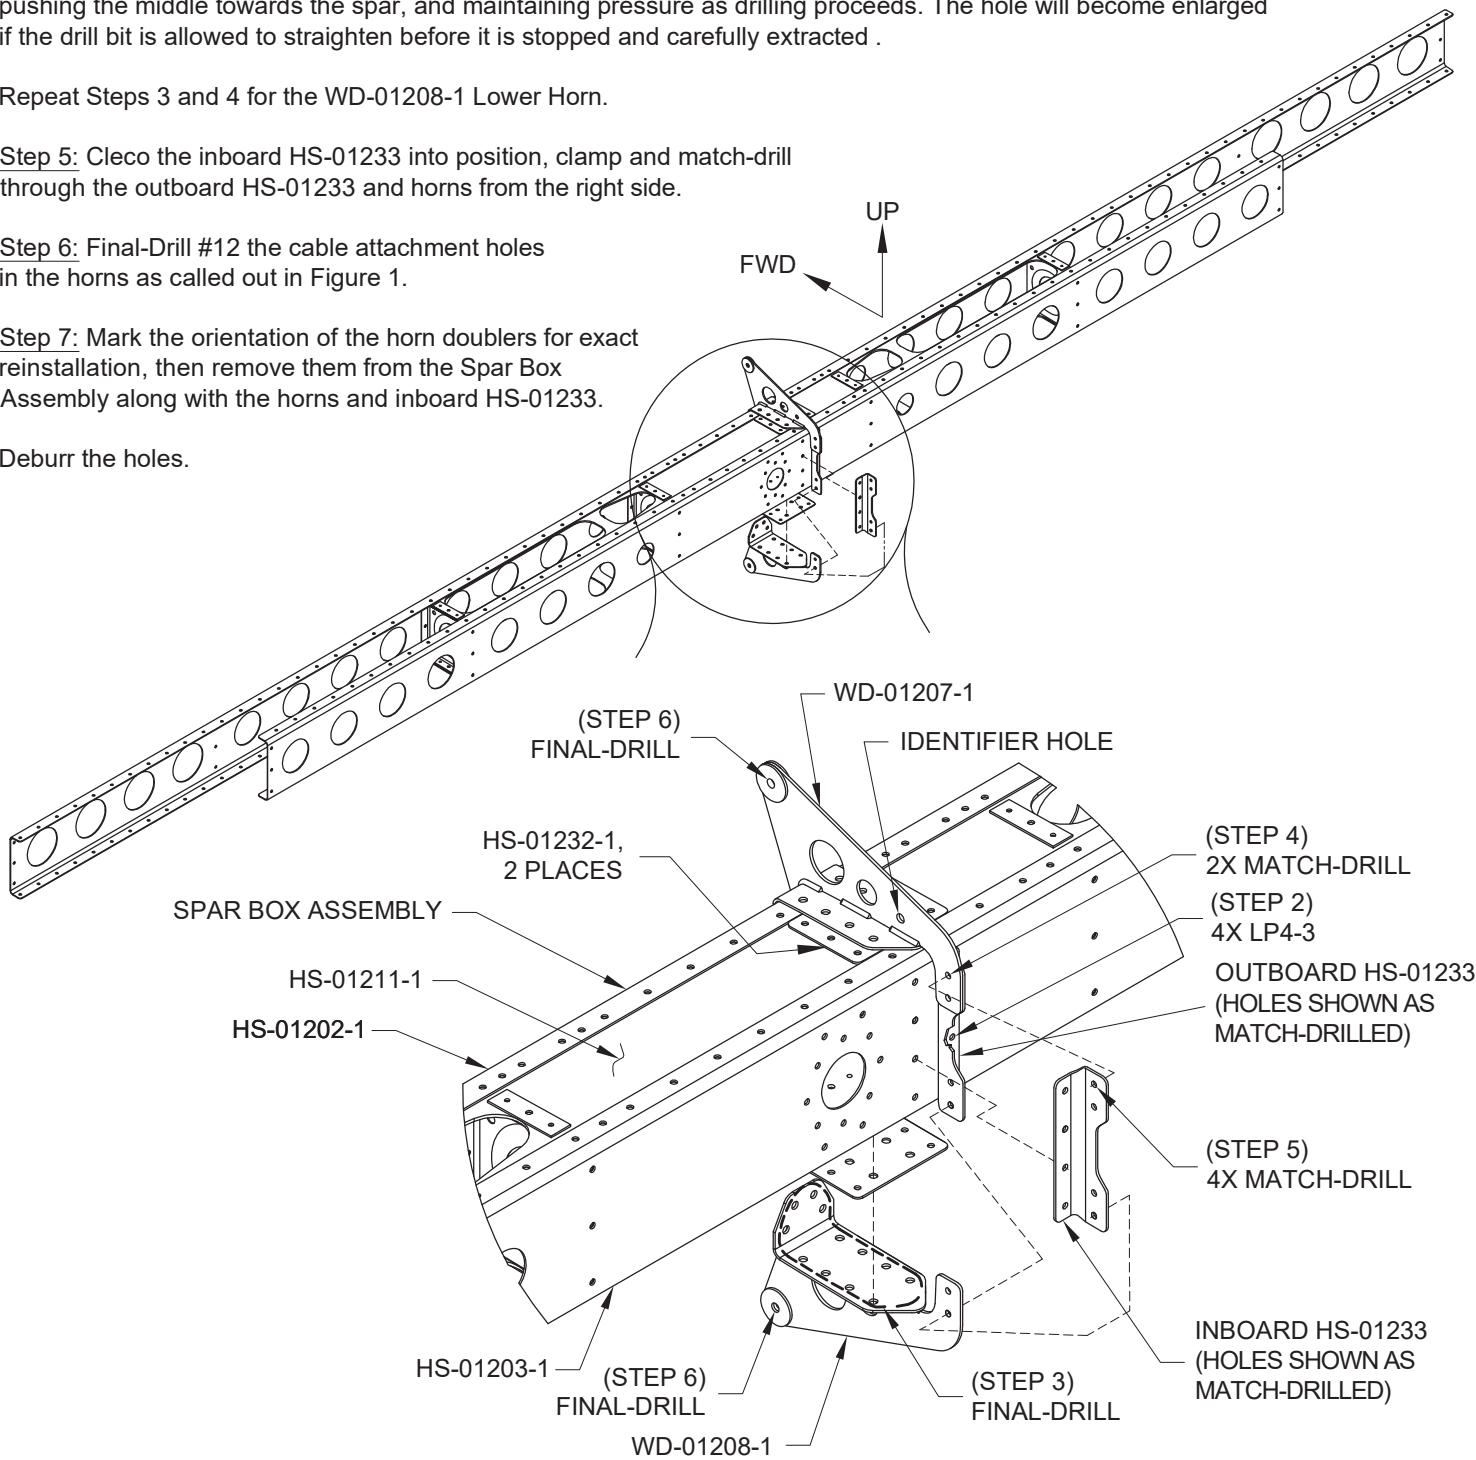

FIGURE 1:
Step 2: Rivet only the outboard HS-01233 Horn Attach Angle to the aft spar as shown in Figure 1.
Step 6: Final-Drill #12 the cable attachment holes in the horns as called out in Figure 1.